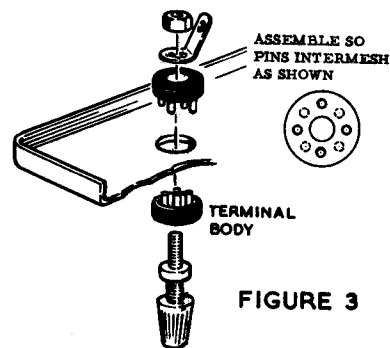

FIGURE 3
Refer to Pictorial 1 and Figure 3 for the following two steps:
- (✓) Mount RED terminals at RR and XX as shown in Figure 3. Under each nut use a 4BA shakeproof solder tag and before tightening the nut, position the solder tag as shown in Pictorial 1 and ensure that the cross-drilled holes in the terminal bodies are horizontal.
- (✓) Mount BLACK terminals at RRG, SS, TT and VV as shown in Figure 3. Under each nut use a 4BA shakeproof solder tag and, before tightening the nut, position the solder tag as shown in Pictorial 1 and ensure that the cross-drilled holes in the terminal bodies are horizontal.